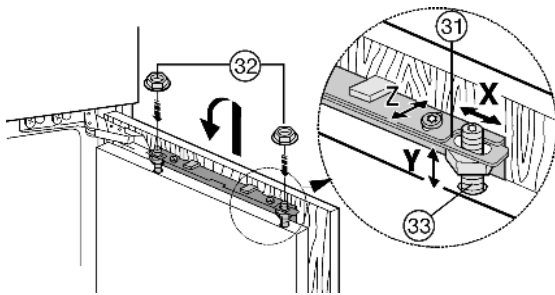

Fig. 22
- ▶ Attach the unit door to the adjusting bolts Fig. 22 (33) and loosely screw the locknuts Fig. 22 (32) onto the adjusting bolts.
- ▶ Align unit door in height and lateral inclination: Adjust the adjusting bolts Fig. 22 (33) using a screwdriver.
- ▶ Tighten the lock nuts Fig. 22 (32).